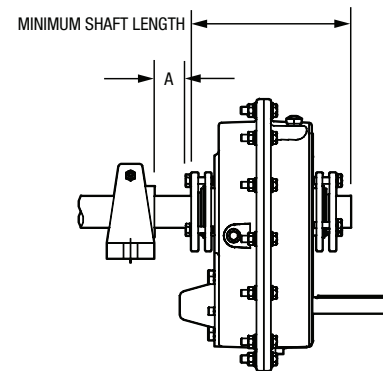

Figure 6 - Minimum Recommended Dimensions
1. One bushing assembly is required to mount the reducer on the driven shaft. An assembly consists of two tapered bushings, bushing screws and washers, two bushing backup plates and retaining rings, and necessary shaft key or keys. The driven shaft must extend through the full length of the reducer. If the driven shaft does not extend through the reducer do not use the standard tapered bushings; instead use the short shaft bushings as described in the Short Shaft Bushings section that follows. The minimum shaft length, as measured from the end of the shaft to the outer edge of the bushing flange (Figure 6), is given in Table 3.
1. One bushing assembly is required to mount the reducer on the driven shaft. An assembly consists of one long tapered bushing, one short tapered bushing, one tapered bushing wedge, bushing screws and washers, two bushing backup plates and retaining rings, and necessary shaft key or keys. The driven shaft does not need to extend through the reducer for the short shaft bushing to operate properly. The minimum shaft length, as measured from the end of the shaft to the outer edge of the bushing flange (see Figure 6), is given in Table 3.